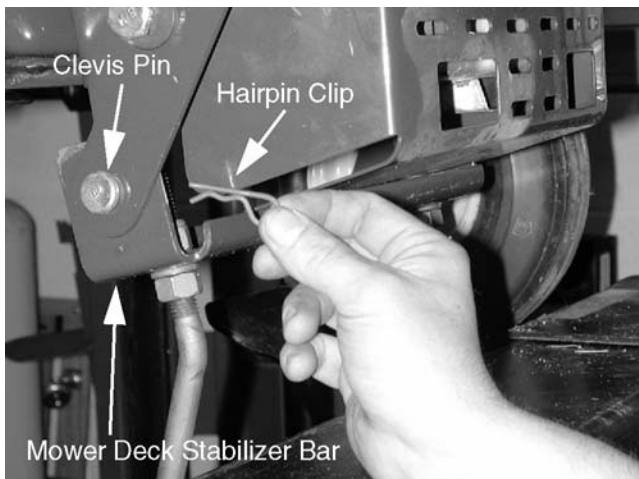

Figure 11-57
6. Remove the hairpin clips and clevis pins that secure the mower deck stabilizer bar to the frame. See Figure 11-57.